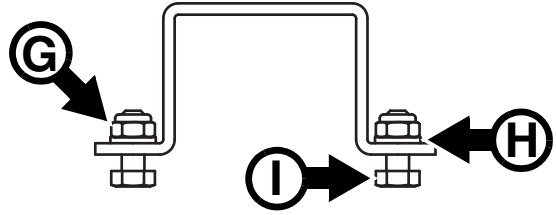

Figure 5: Sliding bracket fasteners
3. See Figure 5. Loosen both the self-locking nuts **G** on a sliding bracket.